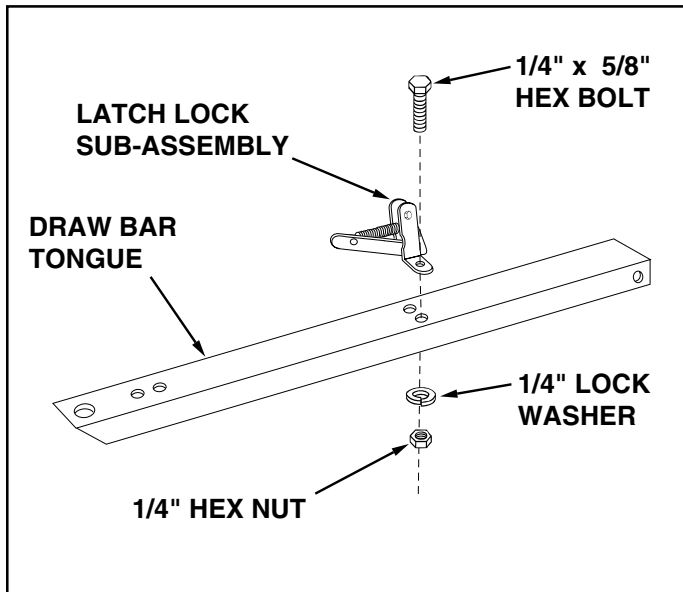

FIGURE 9
14. Assemble the latch lock subassembly to the drawbar tongue using two 1/4" x 5/8" hex bolts, 1/4" lock washers and 1/4" hex nuts. **Tighten.** See figure 9.